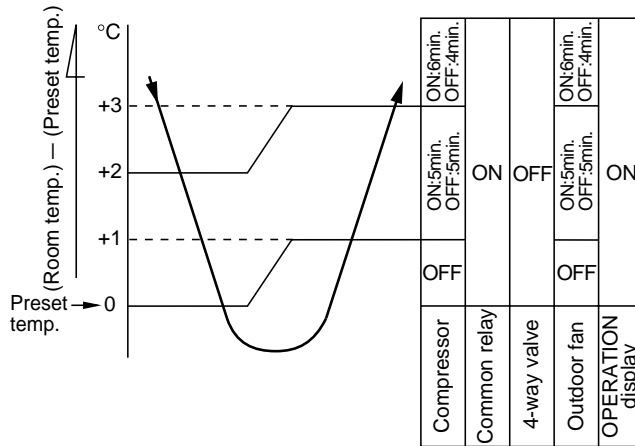

Fig. 7-2-4
- (1) The compressor, 4-way valve, outdoor fan and operation display on the remote control are controlled as shown in Fig. 7-2-4.